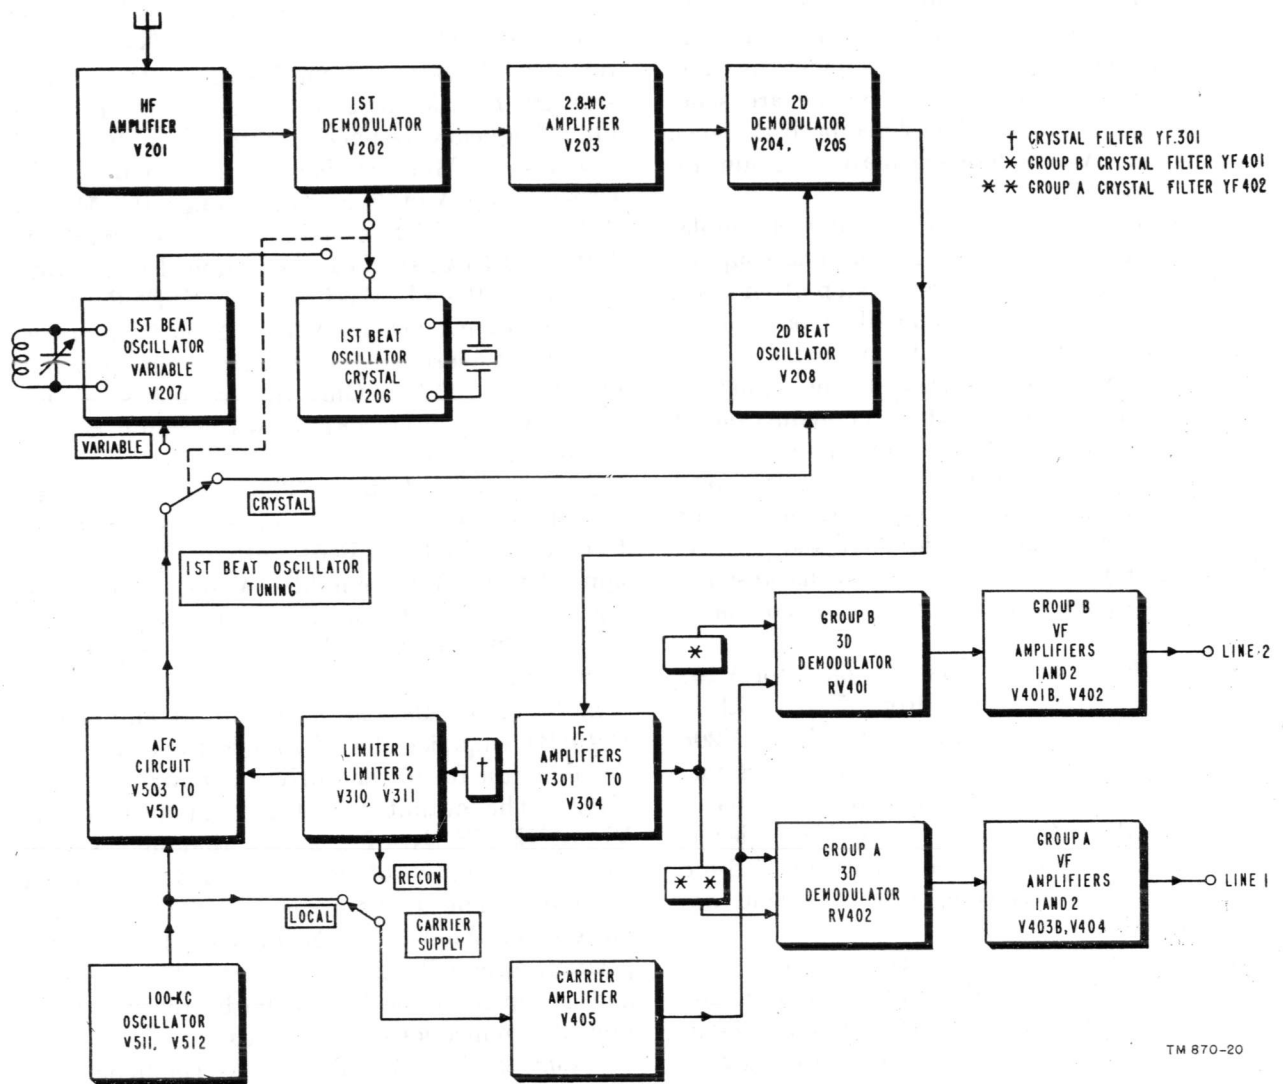

Figure 28. Radio Receiver R-369/FRC-10, simplified block diagram.
a. This chapter contains an explanation of the theory of operation of Radio Receiver R-369/FRC-10. The analysis is performed in three steps. First, the receiver is treated as a group of interconnected systems or circuits. Each system or circuit consists of several stages operating together to accomplish a major function, as shown in the simplified block diagram (fig. 28). Second, the complete block diagram (fig. 29) that contains a block for every stage in the receiver is discussed. Third a stage-by-stage analysis of the complete receiver.
(fig. 28)
a. The simplified block diagram (fig. 28) of Radio Receiver R-369/FRC-10 shows the signal flow path of the incoming rf signals through the stages that demodulate and amplify the signals and control the tuning and gain of the receiver.